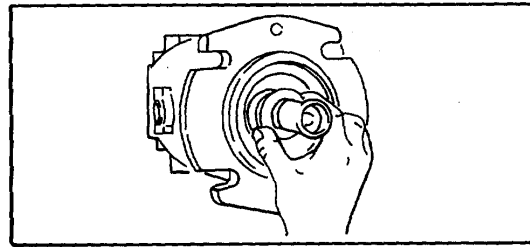

Figure 22.
5. Wrap a piece of plastic around drive shaft and slide rotating bronze part over shaft making sure it is seated. Do not press on seal surface (refer to Fig. 22).